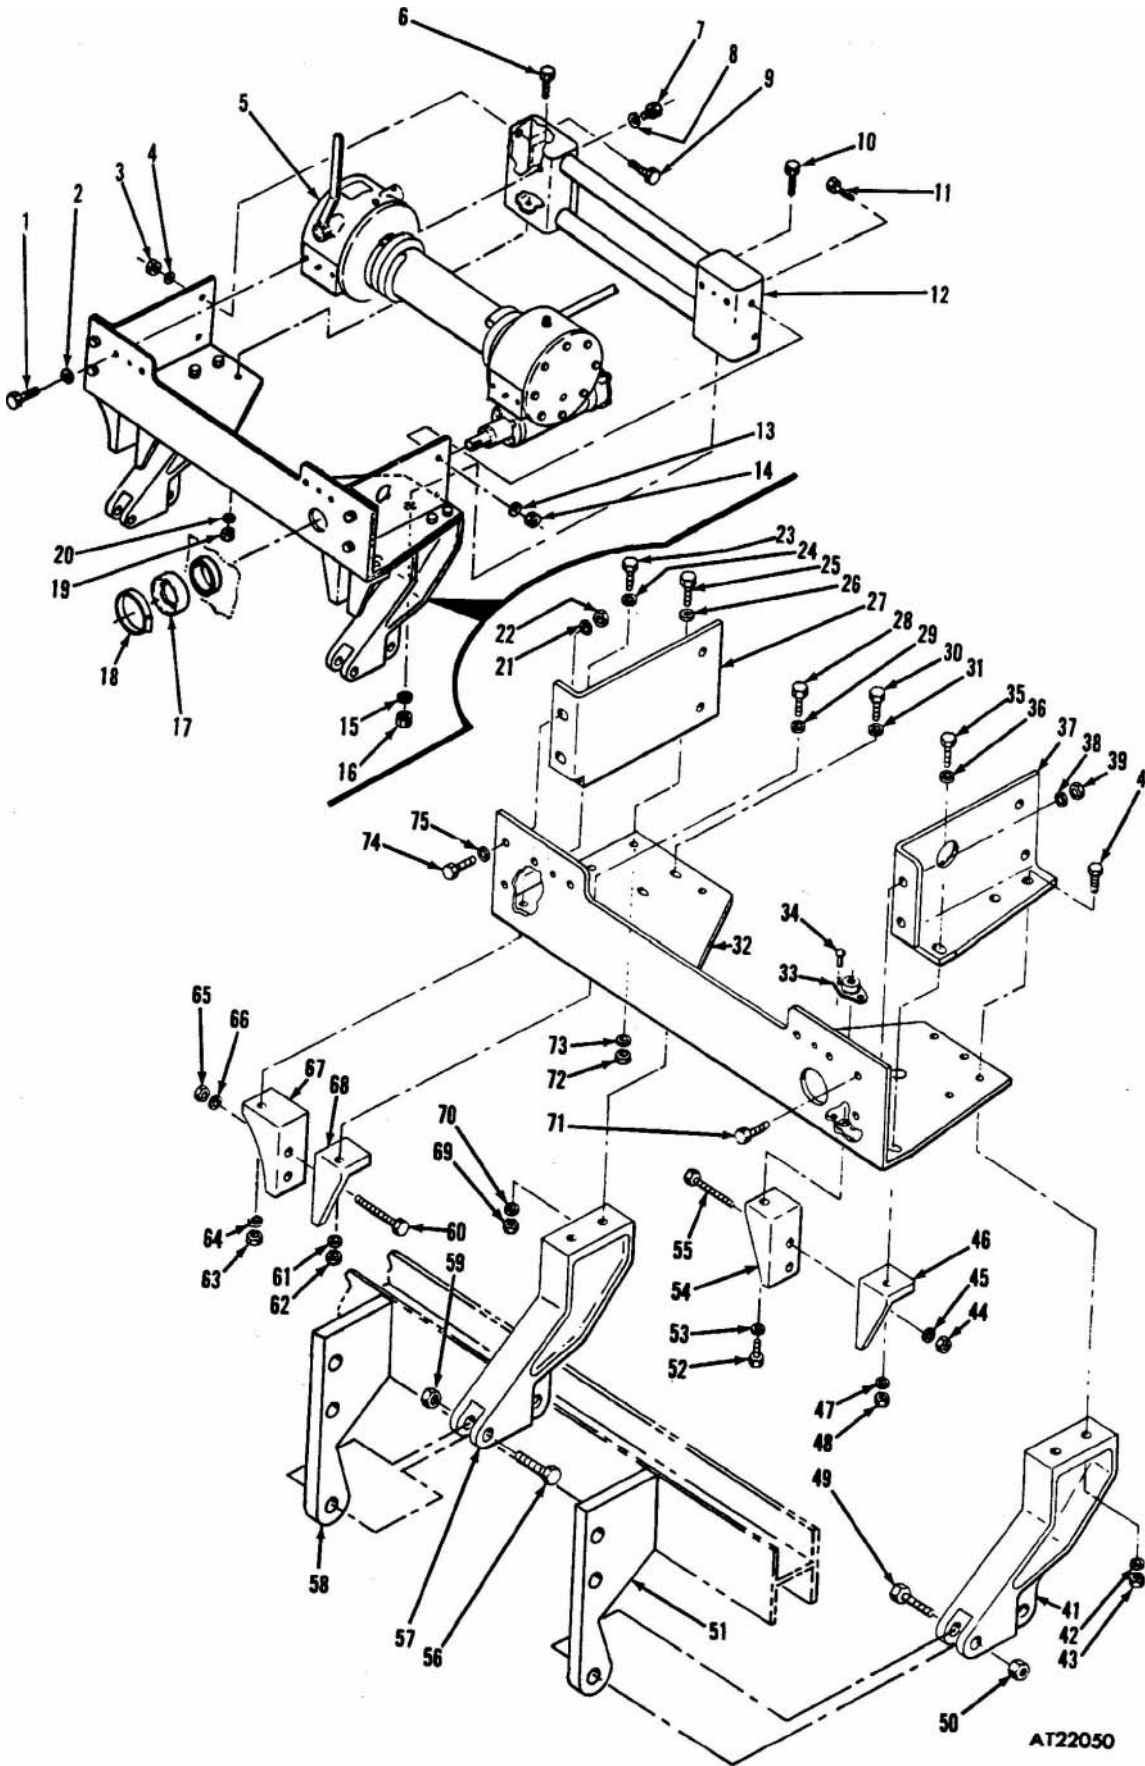

Figure 3-39. Winch kit, initial installation.
- (3) Cut a 2-inch diameter hole in tractor hull.
- (4) If necessary, remove shipping straps from winch assembly.
- (5) Connect winch assembly (5, fig 3-39) to rear mounting bracket (32) and secure with screws (1) and washers (2).
LEGEND to fig 3-39: